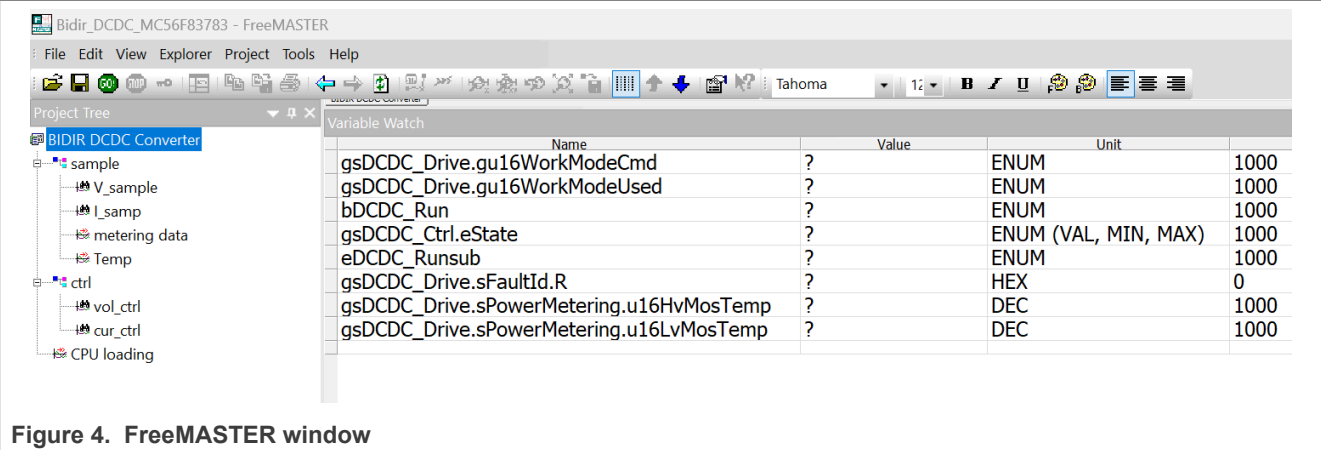

Figure 4. FreeMASTER window
1. Open the FreeMASTER project (Bidir_DCDC_MC56F83783.pmpx) with FreeMASTER. Figure 4 illustrates the FreeMASTER window.